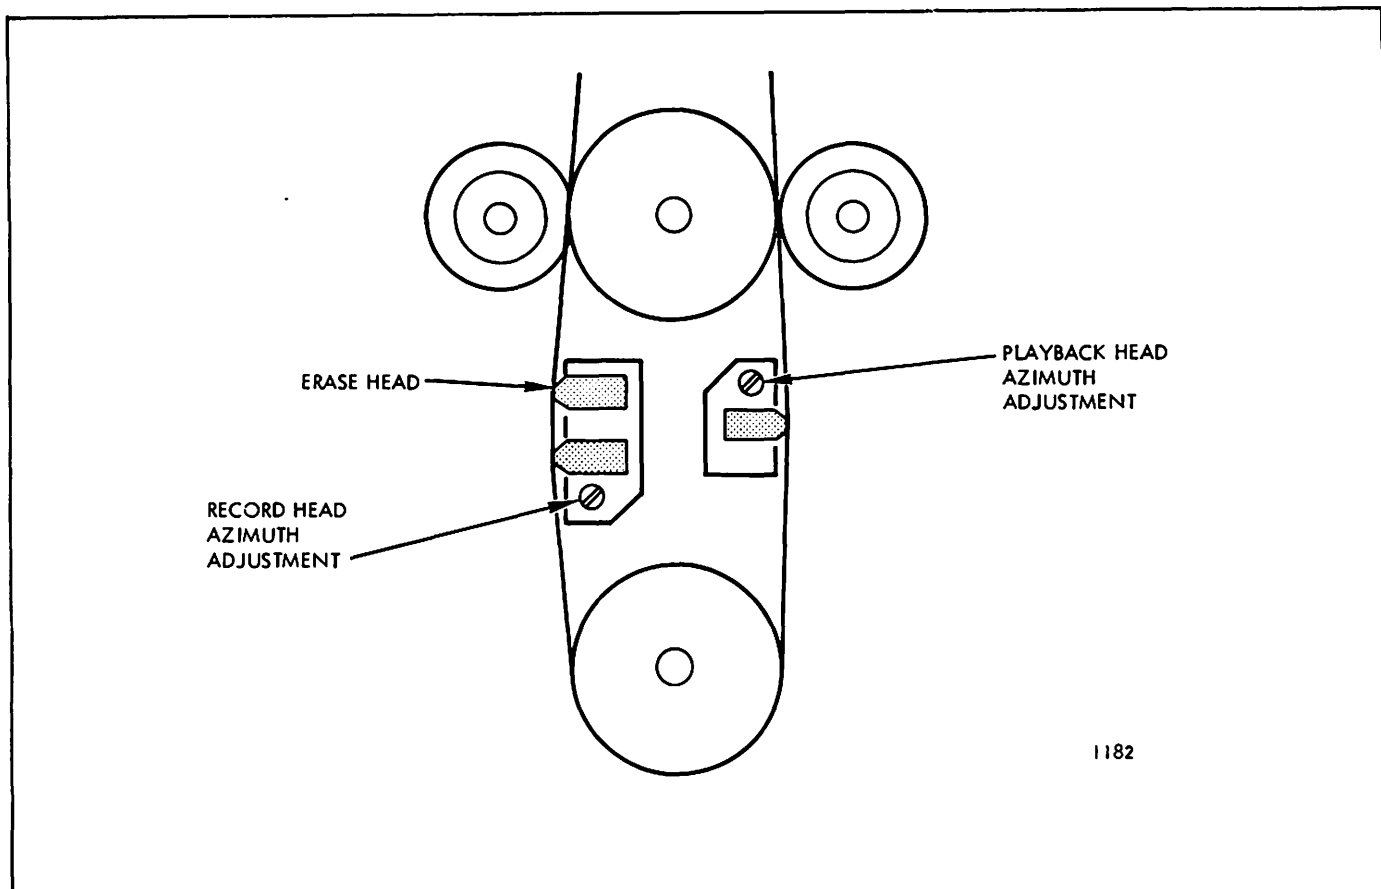

Figure 27. Record and Playback Head Azimuth Adjustments
7. Rewind the test tape to the 15 kHz tone, and adjust the playback head azimuth (figure 27) for peak output.
7. Set the oscillator to 7000 Hz. Adjust the azimuth of the record head stack to give a maximum indication on the VU meter. Reset the oscillator to 15,000 Hz and again carefully adjust the record head azimuth for maximum. Using a similar method as in step 8 of the NAB Playback Alignment, adjust the record head azimuth screw (figure 27) for less than 90 degrees phase error between any two tracks.
7. Play the 15,000 Hz azimuth check tone and adjust the playback head azimuth (figure 27) for peak output as indicated on the VU meter.